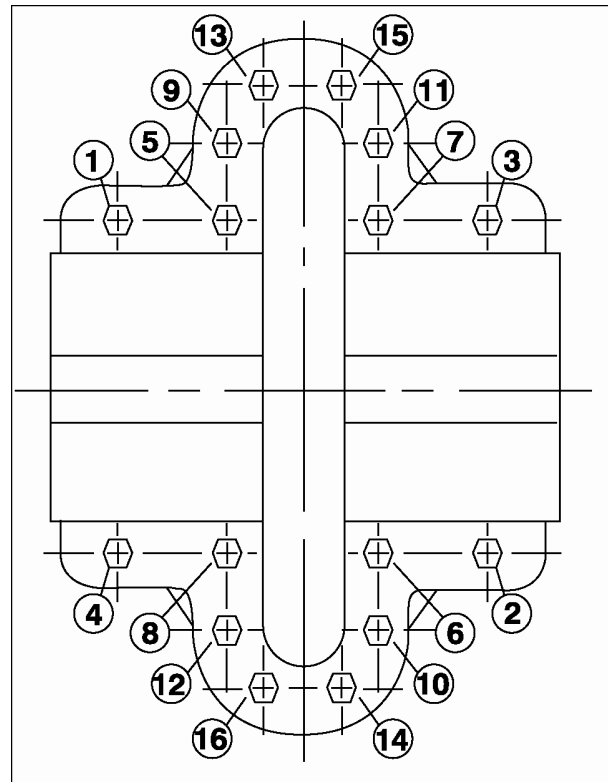

FIGURE 59 – MAIN JOINT BOLTS
29. Reinstall all main joint bolts, following tightening sequence illustrated in Figure 59. (The number of casing bolts varies with the size of the pump.) Torque bolts 140 ft-lb minimum for 5/8"-11 hex head cap screws (Grade 5); 350 ft-lb minimum for 7/8"-9 Ferry Cap Counterbore screws (Grade 8).